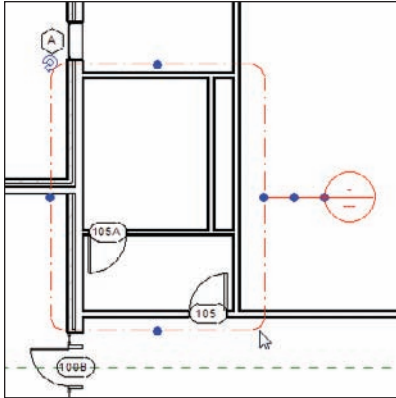

FIGURE 3.65 Creating a plan callout
2. Zoom in on the area shown in Figure 3.65.
4. Pick a window around the lavatory, as shown in Figure 3.65.